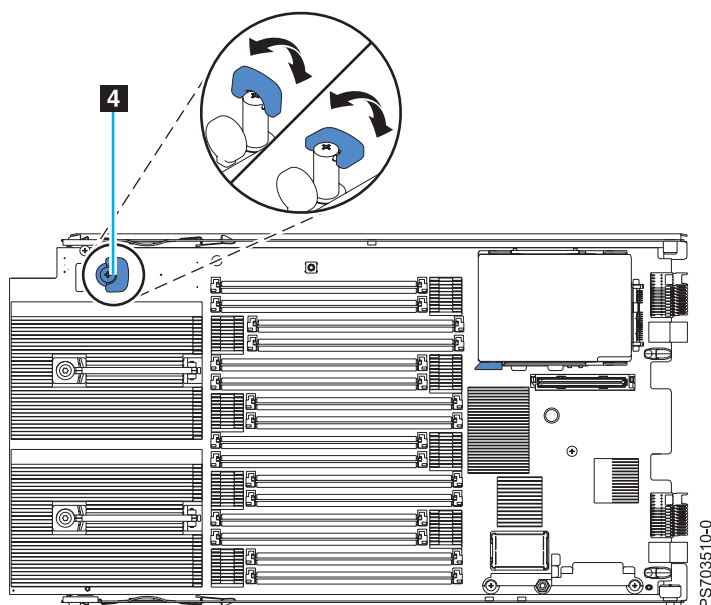

Figure 16. Expansion blade retention screw
3. To access the expansion-blade retention thumb screw, see **4** in Figure 16 on page 24.